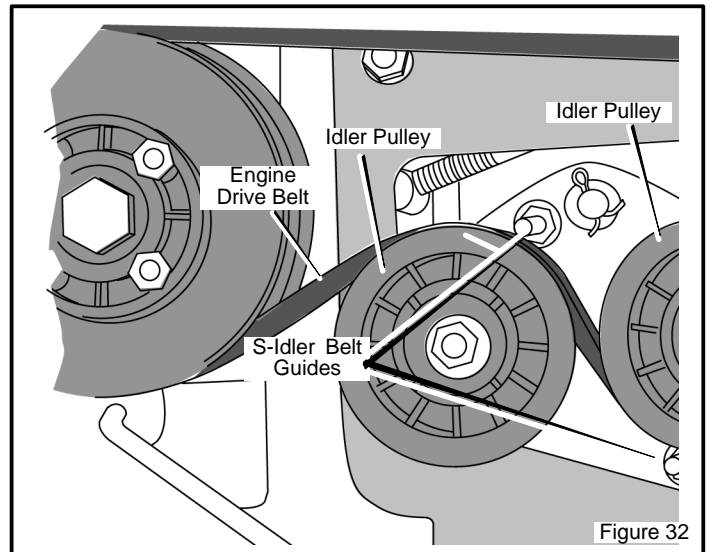

Figure 32
8. To access the **idler belt guides**, lower the idler bracket assembly. The idler bracket assembly cannot be removed until the **engine drive belt** is removed from the **idler pulleys**. Remove both **idler belt guides** (see Figure 32).